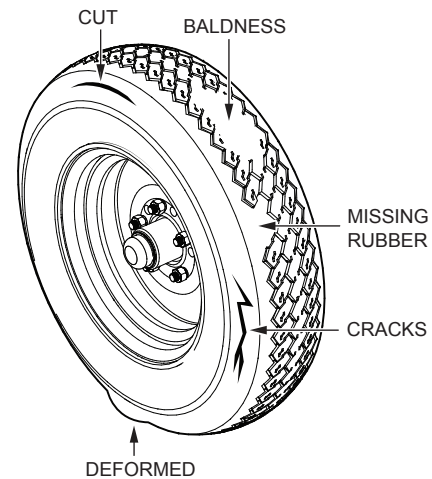

**Figure 13. Fuel Check**
1. Remove the fuel cap (Figure 13) located on top of fuel tank.